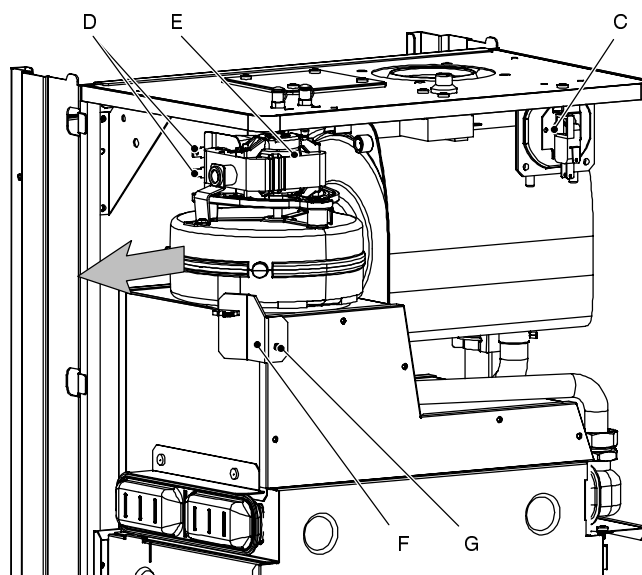

Fig. 71
- 4 Unscrew the screw *F* and remove the bracket *G* (Fig. 71).
- 5 Remove the Fan by sliding it towards left (see the arrow in Fig. 71).